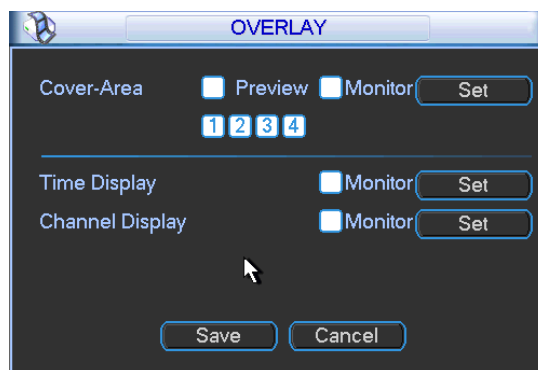

Figure 5-7
- Overlay: Click overlay button, you can see an interface is shown in Figure 5-7.